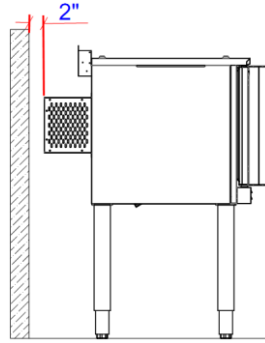

Fig.1
4. Install the unit at least 5cm from the wall if the wall does not bear a minimum temperature of 150°C (see Fig.1). If the unit is placed very close to the wall, partition walls, kitchen cabinets, decorative walls, etc., we recommend that they are made with a non-combustible material with a proper thermal insulation. Pay a lot of attention to regulations concerning fire prevention.